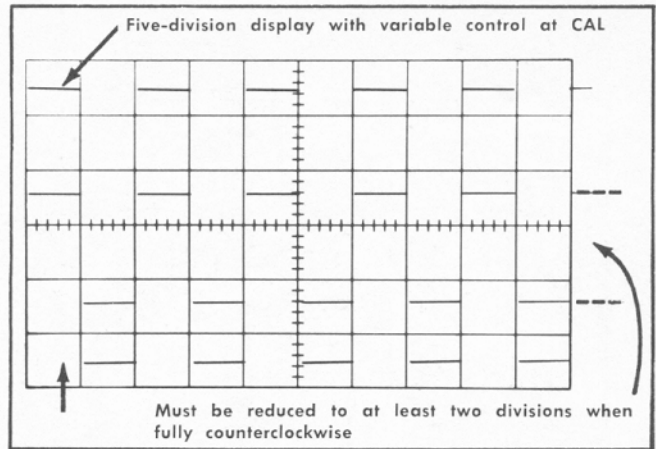

Fig. 6-22. Typical crt display showing correct VARIABLE VOLTS/DIV control range (double exposure).
- d. Check—Turn the Channel 1 VARIABLE VOLTS/DIV control fully counterclockwise. Display should be reduced to 2 divisions or less (see Fig. 6-22). UNCAL light must be on when VARIABLE control is not in CAL position.
- f. Check—Turn the Channel 2 VARIABLE VOLTS/DIV control fully counterclockwise. Display should be reduced to 2 divisions or less (see Fig. 6-22). UNCAL light must be on when VARIABLE control is not in CAL position.